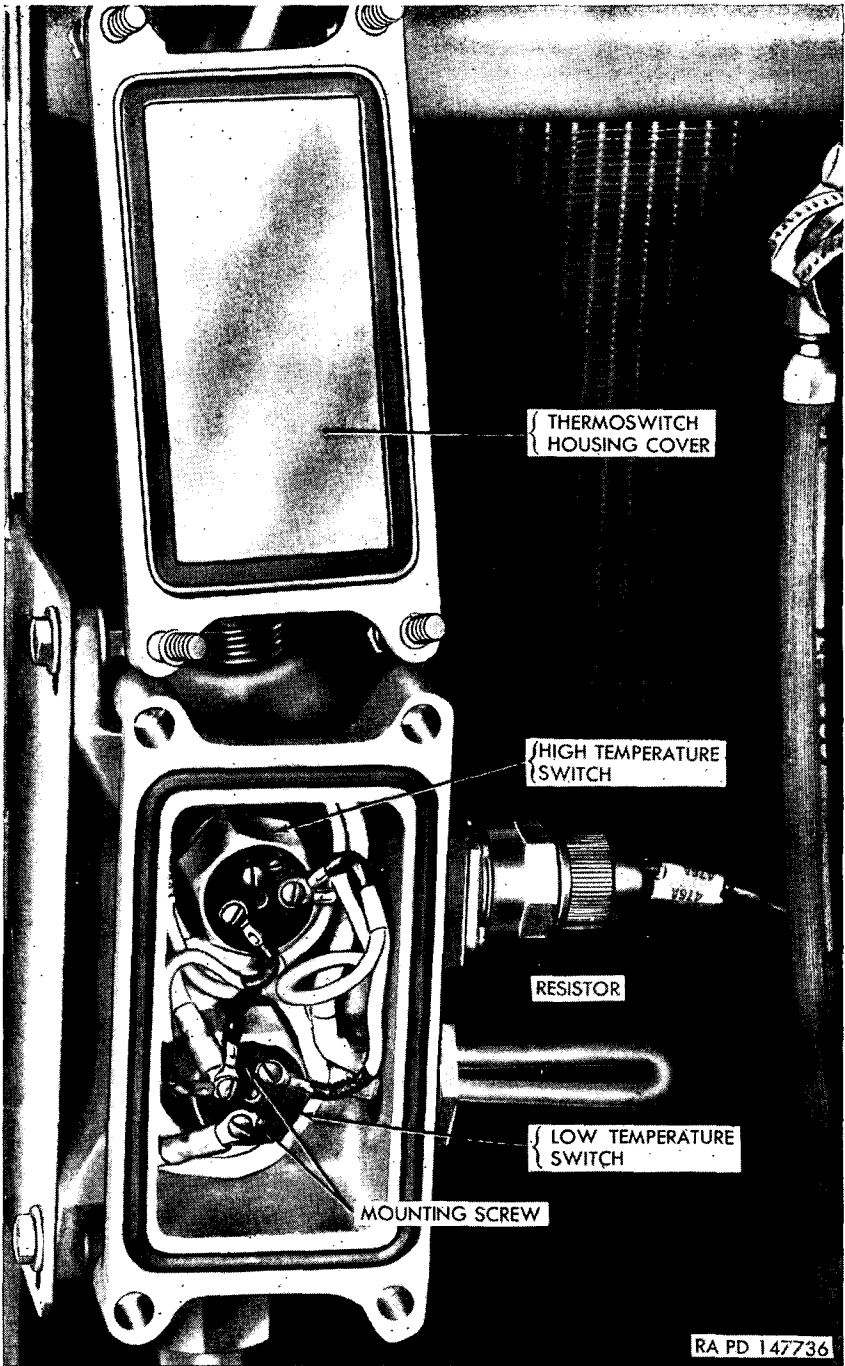

Figure 202. Engine oil cooler fan controller—cover removed.
- (1) *Controllers.* Two controllers are provided for the oil cooler fans. The transmission oil-cooler-fan controller (fig. 221) controls the left fan and is mounted on the left side of the transmission. The engine oil-cooler-fan controller (fig. 232) controls the right fan and is mounted on front side of right cooler. Each controller contains two thermostatic switches and a resistor (fig. 202) and is electrically connected to the respective fan clutch (fig. 237). The controllers are set to start and increase fan speed as oil temperature is increased. The right fan will start at low speed when engine oil temperature reaches 175° F., and changes to full speed when the temperature is increased to 195° F. The fan will return to low speed when temperature is reduced to 165° F. The left fan will start at low speed when transmission oil temperature reaches 210° F., and changes to full speed when temperature reaches 255° F. The fan will return to low speed when temperature is reduced to 225° F., and stop at 180° F.
b. **REPLACEMENT OF THERMOSTATIC SWITCHES.** Thermostatic switches in both the engine oil cooler fan controller and the transmission oil cooler fan controller are replaced in the same manner. Turn off master relay switch (fig. 18). Open engine compartment grille doors (fig. 101). Loosen four bolts securing controller cover and remove cover (fig. 202). Remove two mounting screws securing each switch in housing and lift switches from housing (fig. 203). Remove terminal screws and cables from one thermostatic switch at a time and install cables on new switch. Position switches in housing and secure each with two screws. Make sure cover gasket is in good condition and positioned in groove in top of housing (fig. 203). Secure cover with four bolts. Close engine compartment grille doors (fig. 101).